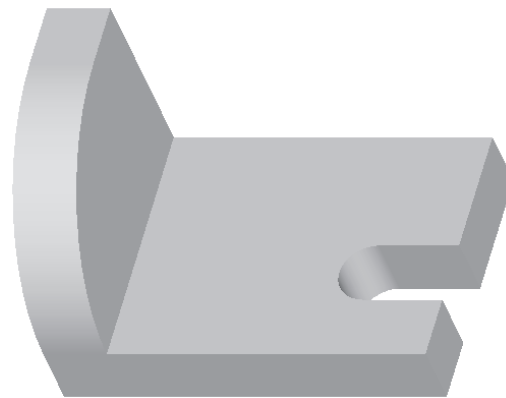

Figure 5-80 Model with the second extruded feature
5. Choose the **Build feature** button from the **Extrude** dashboard. The second feature is completed and is shown in Figure 5-80. You can use the middle mouse button to spin the model to view it from various directions.